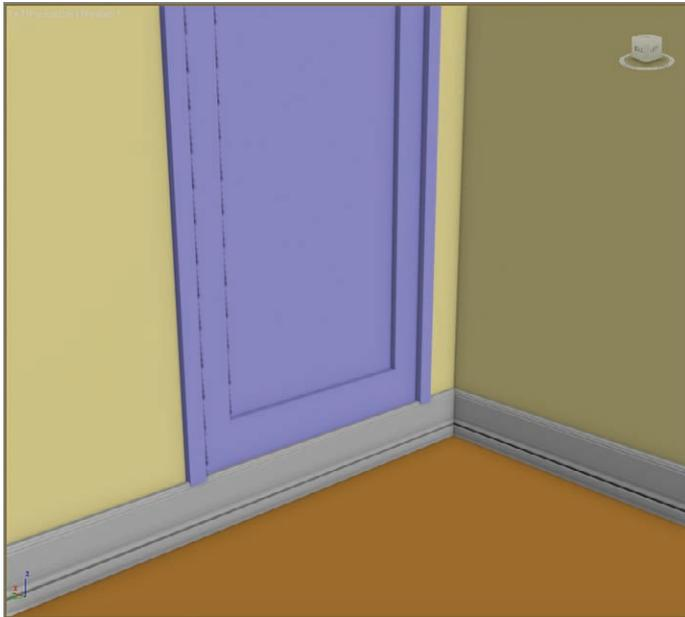

FIGURE 3.24 The baseboard molding is going through the door opening.
- The baseboard molding should run along the floor except at the door openings. Right now, the molding is going straight through, as shown in Figure 3.24. It isn't difficult to fix; just edit the path.